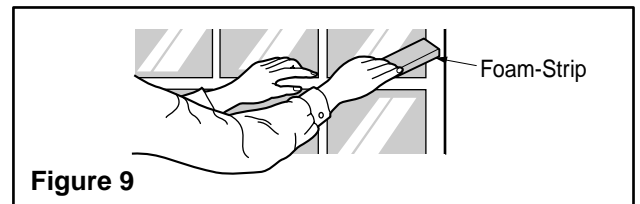

Figure 9
8. Cut the Foam-strip to the proper length and insert between the upper window sash and the lower window sash. (See Fig. 9)